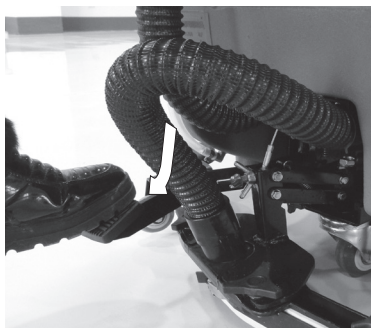

Figure 17
5. Push brush motor pedal down while moving it leftwards (as indicated in the arrow) to lay the brush head down to the floor (Figure 17).